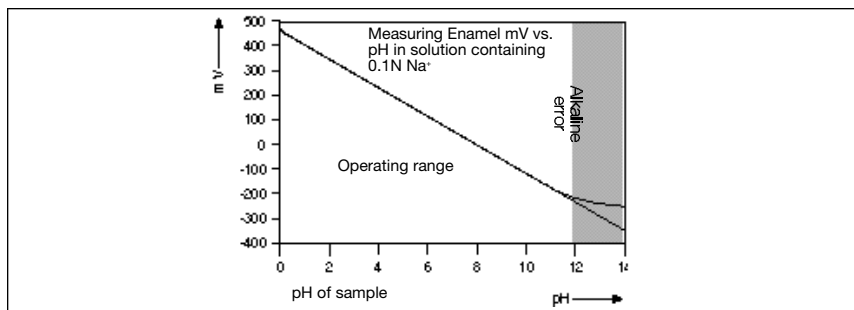
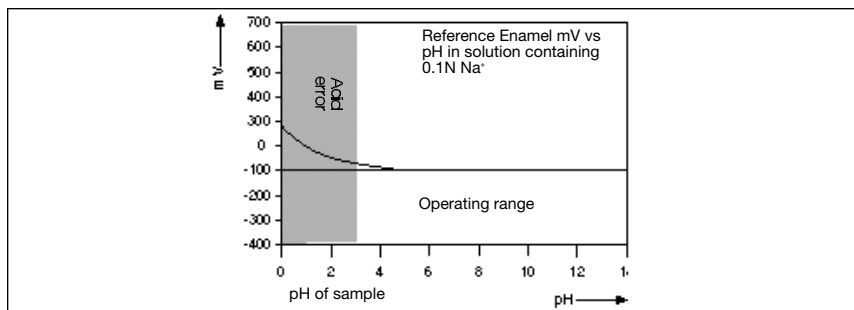
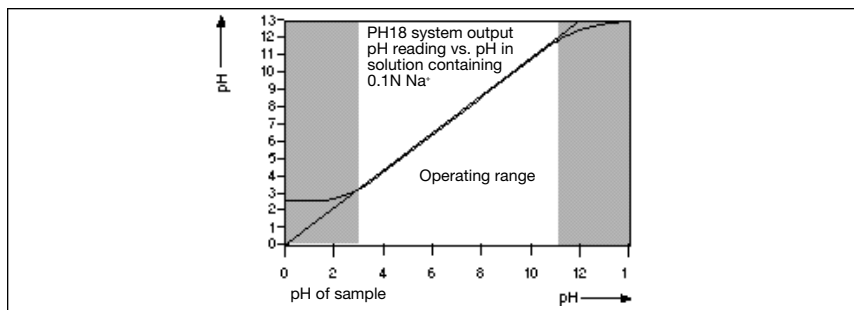

Fig. 1
Fig. 2
Fig. 3
The response curves Fig. 1 (pH), Fig. 2 (reference) and Fig. 3 (application range) show the way in which the potential is generated at each element and combined in the output of the sensor.
- Fig. 1 Above pH11 the effect of sodium on the pH membrane starts to cause non-linearity (Sodium error)
- Fig. 2 Below pH3 the high Hydrogen ion content causes a change in the reference response
- Fig. 3 A linear response to pH is obtained between 3 and 11 pH